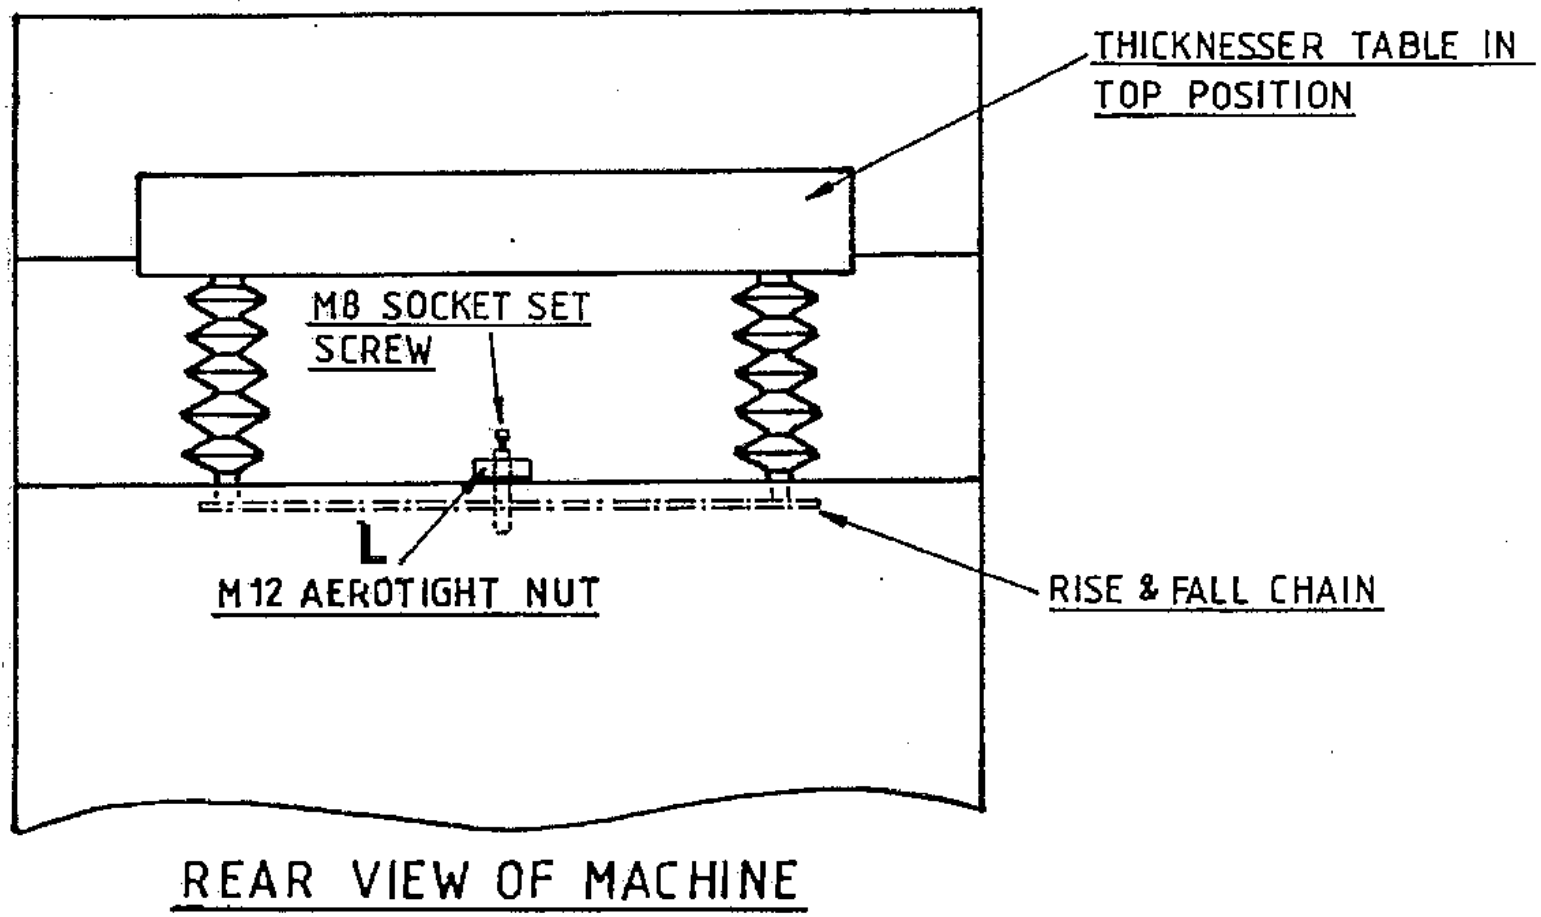

FIG.34
- c) Loosen M12 aerotight nut "L" FIG.34 and turn M8 grub screw until correct tension is achieved.